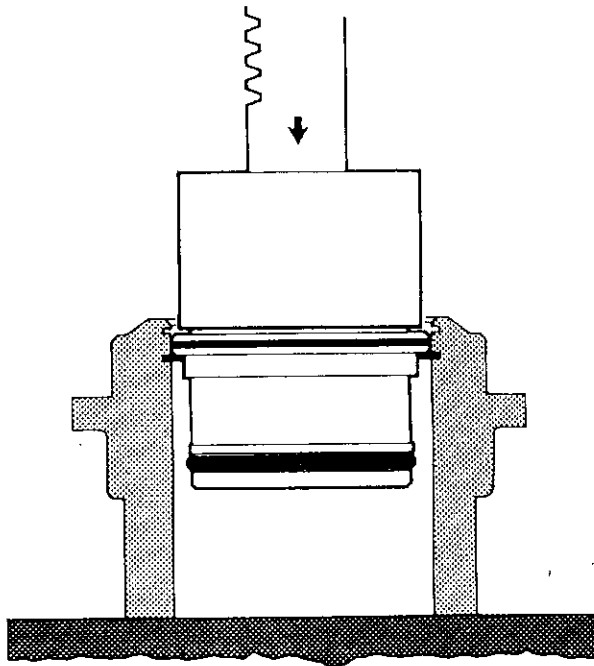

Figure 3.18
9. Press the bearing retainer (14) into position in the drive housing (24), as shown in Figure 3.18.